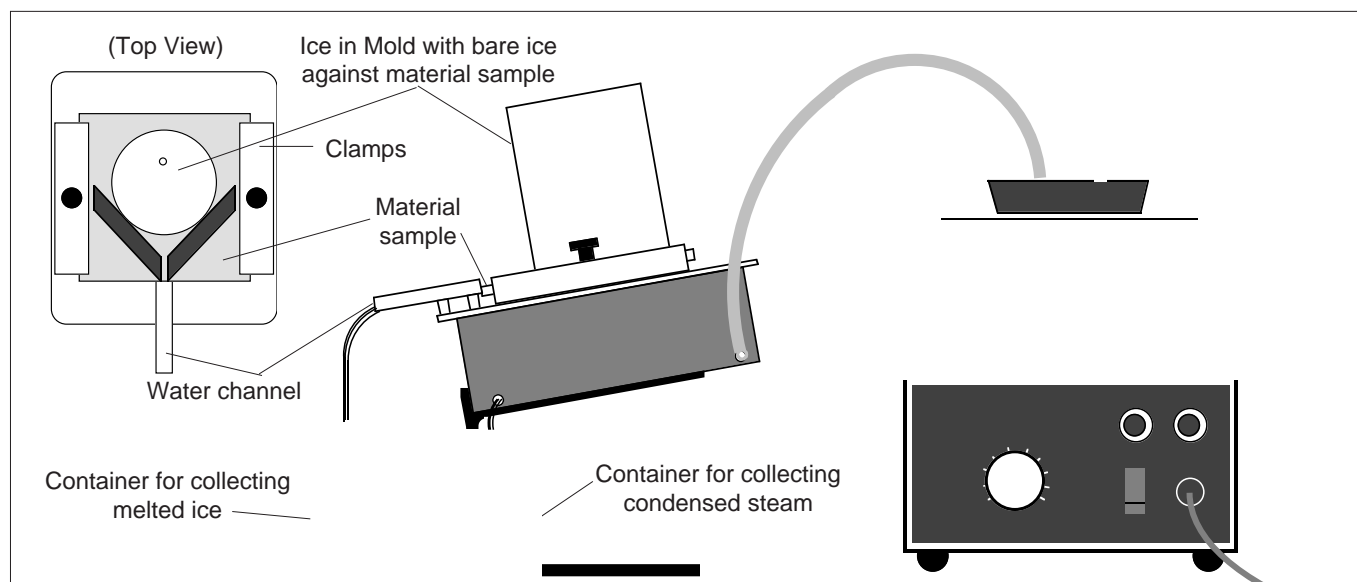

Figure 2 Experimental Setup
- ① Fill the ice mold with water and freeze it. Do not freeze water with lid on jar. (A few drops of a non-sudsing detergent in the water before freezing will help the water to flow more freely as it melts and will not significantly effect the results.)
- ② Run jar under warm water to loosen the ice in the mold.
- ③ Measure and record h , the thickness of the sample material.
- ④ Mount the sample material onto the steam chamber as shown in Figure 2.
- ⑤ Measure the diameter of the ice block. Record this value as d_1 . Place the ice on top of the sample as shown in Figure 2. Do not remove the ice but make sure that the ice can move freely in the mold. Just place the open end of the mold against the sample, and let the ice slide out as the experiment proceeds.